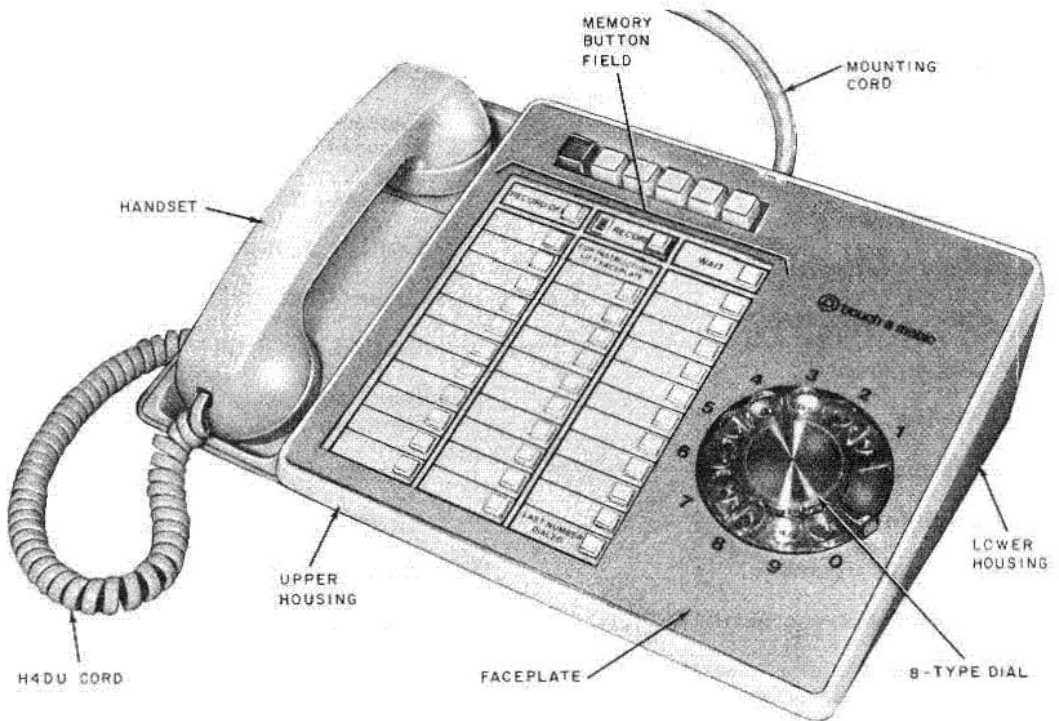

Fig. 1—872A1M Telephone Set
**1.01** This section contains identification, installation, connections, operation, and maintenance information on the 872A1M TOUCH-A-MATIC® telephone set (Fig. 1).
- Revise Fig. 1 through 6, 8 through 12, and 14